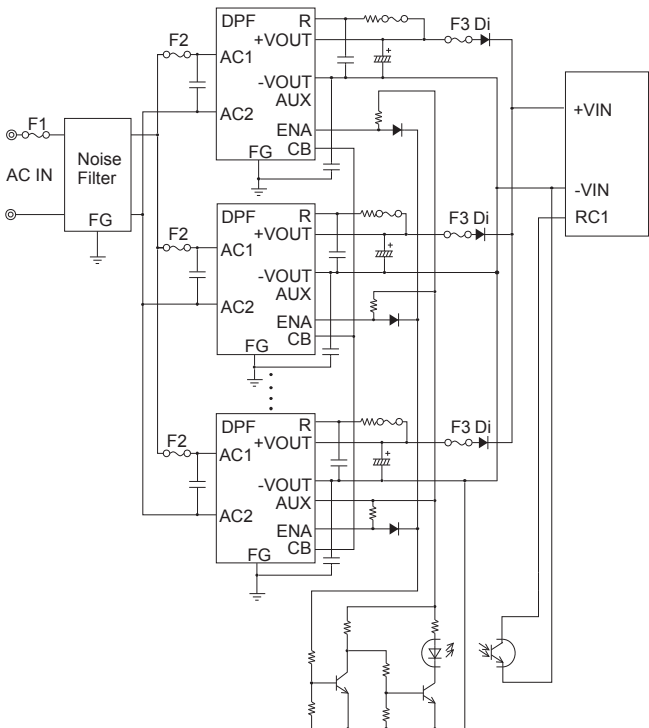

Fig.3.1 Parallel operation
■Parallel operation is available by connecting the units as shown in Fig.3.1.